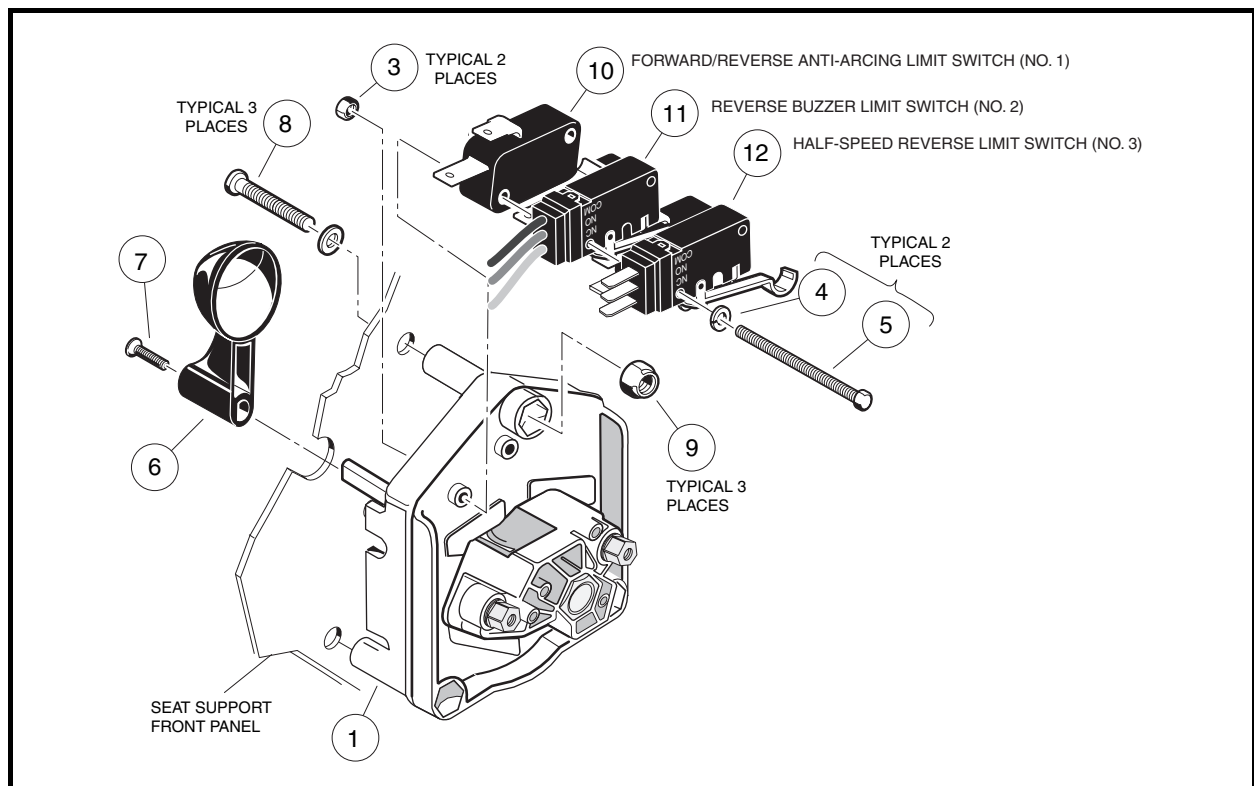

Figure 12-4 Forward/Reverse Switch
The Forward/Reverse anti-arcing limit switch, reverse buzzer limit switch, and half-speed reverse limit switch are located on the Forward/Reverse switch and are activated by a cam on the Forward/Reverse switch rotor (Figure 12-4, Page 12-5).
2. Remove all three limit switches from Forward/Reverse switch by removing two screws (5), lockwashers (4), and nuts (3). Label each wire prior to disconnecting wire terminals from each switch (**Figure 12-4, Page 12-5**).
The half-speed resistor assembly is connected to the half-speed reverse limit switch on the Forward/Reverse switch (**Figure 12-4, Page 12-5**).
2. Disconnect the black and white wires on the no. 3 limit switch (**Figure 12-4, Page 12-5**).